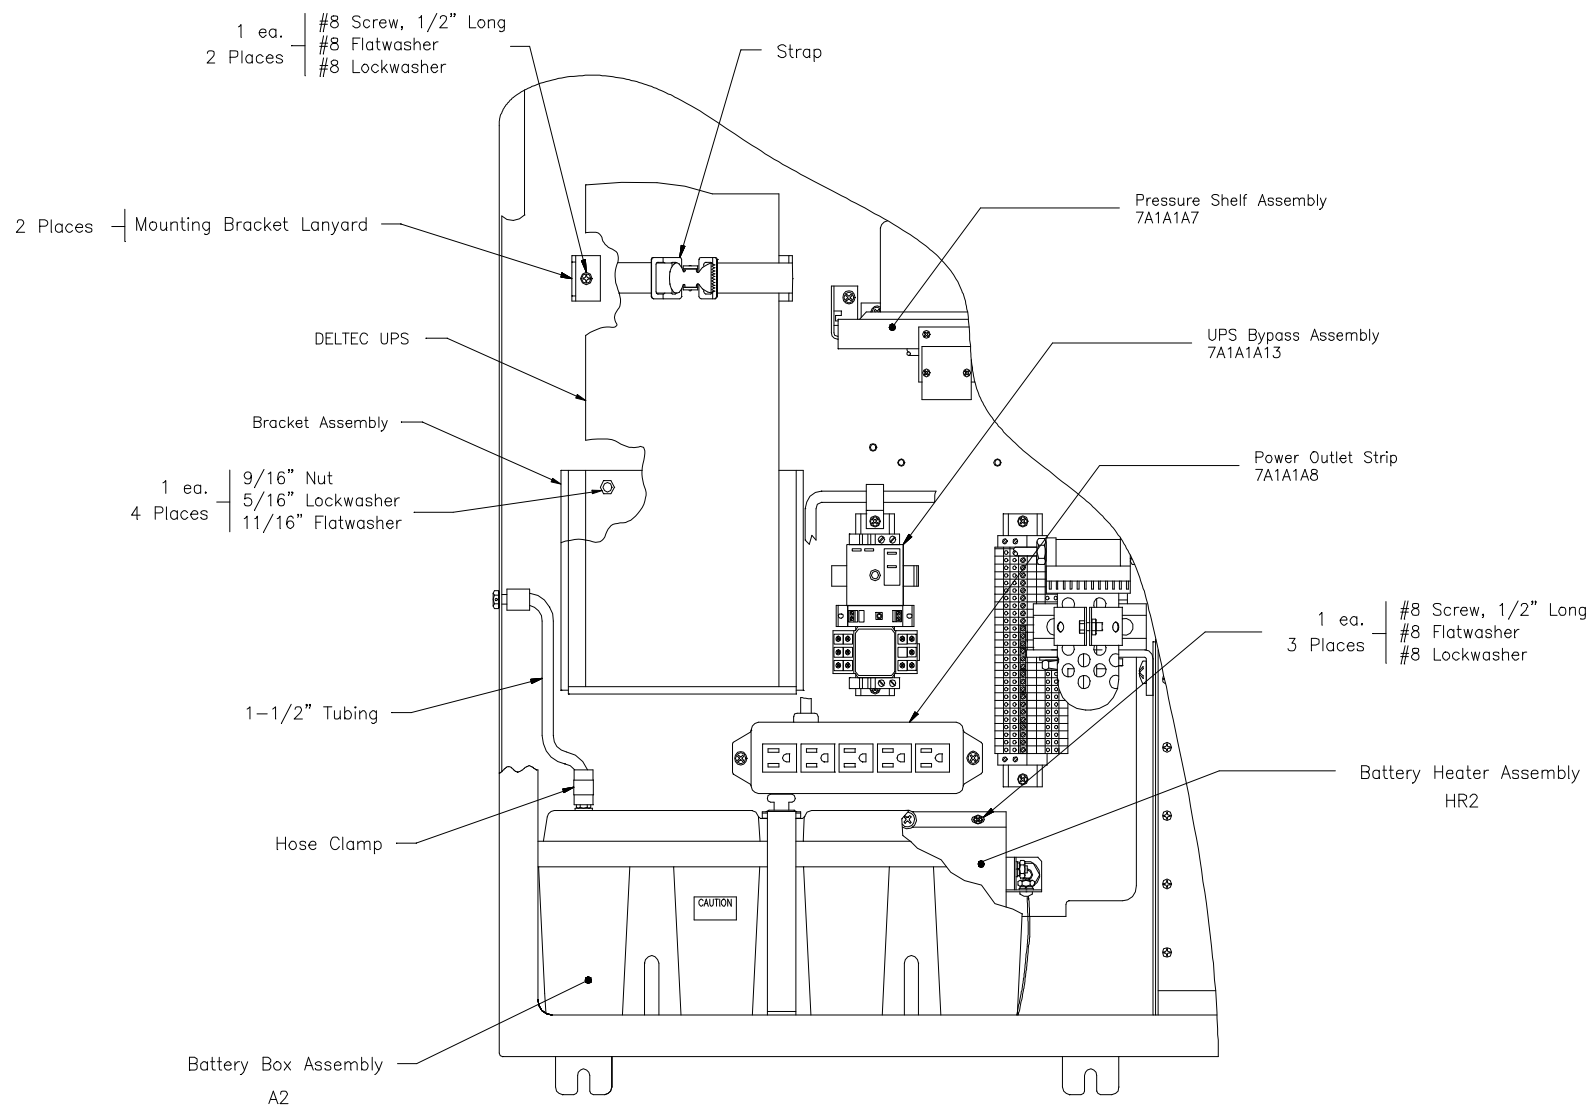

Figure 5 UPS Kit
19. Install the UPS kit into the SCA. Refer to figure 5.